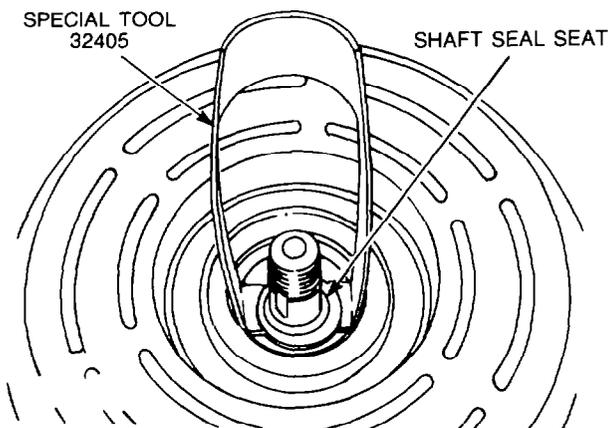

Figure 27 — Shaft Seal Seat — Removal
- k. Install the lugs of special tool 32405 under the shaft seal seat and with a sharp upward movement remove the shaft seal seat (see Fig. 27).